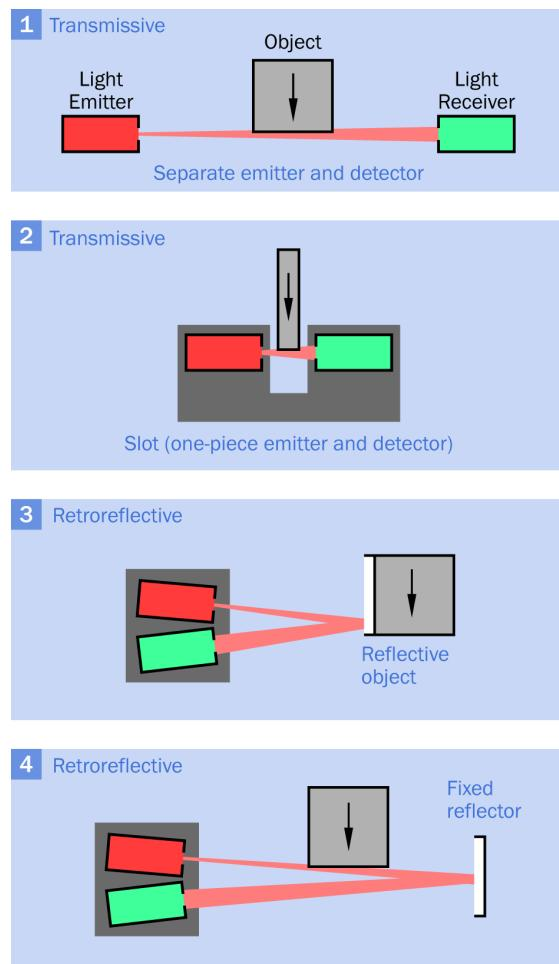

Figure 3-3 Various configurations of optically activated object presence sensors. See text for details.
interrupts or reflects the light beam, as shown in Figure 3-3.
If the light emitter and the light detector face each other across a small gap, they may be contained in a single module (usually with a slot in it) as shown in section 2 of Figure 3-3. This is often referred to as an *optical switch* (not to be confused with the solid-state switching devices used in telecommunications). It is sometimes described as a *photointerruptor* or *photointerupter*.
- An object passing in front of the light beam reflects it back to the detector. The object must be naturally reflective (for example, glass containers or white boxes on a conveyor), or must have a reflective patch applied to it, or the light source must be bright enough to reflect from an object that is not highly reflective. This configuration is shown in section 3 of Figure 3-3.
- A stationary reflector can be mounted opposite the light emitter, in which case a detector beside the light emitter is triggered when an object interrupts the reflected light beam. This configuration is shown in section 4 of Figure 3-3.